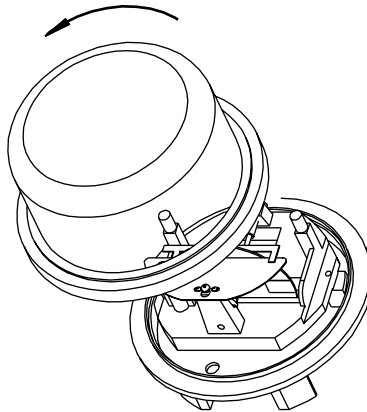

Figure 33. Removing Cover
1. Unscrew the cover on the meter in a counter-clockwise direction. See Figure 33.